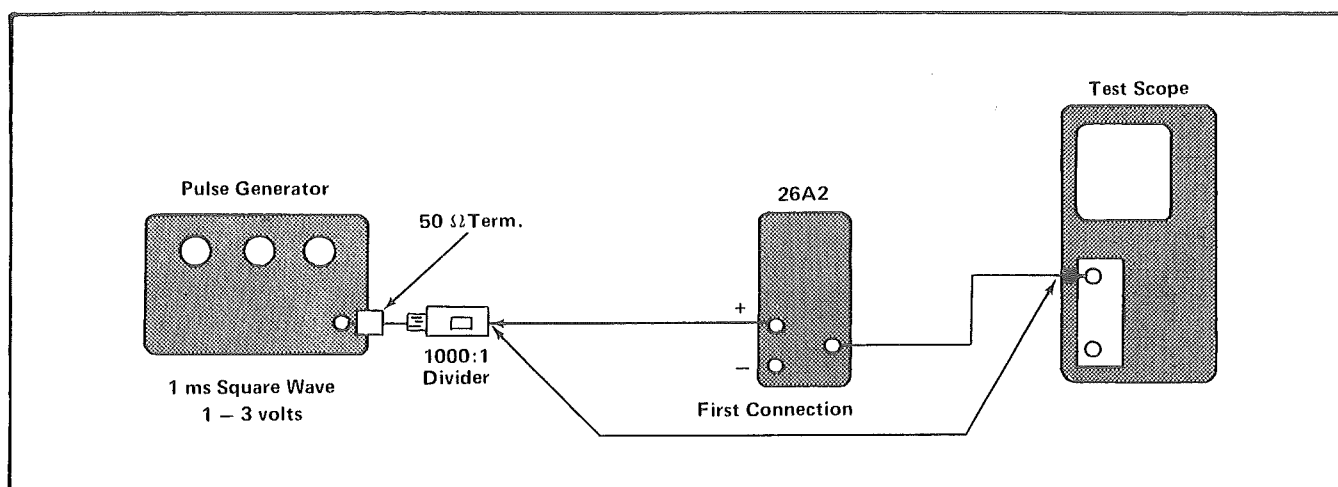

Fig. 5-1. Equipment setup for step 2.
- a. Set up the test equipment as illustrated in Fig. 5-1.